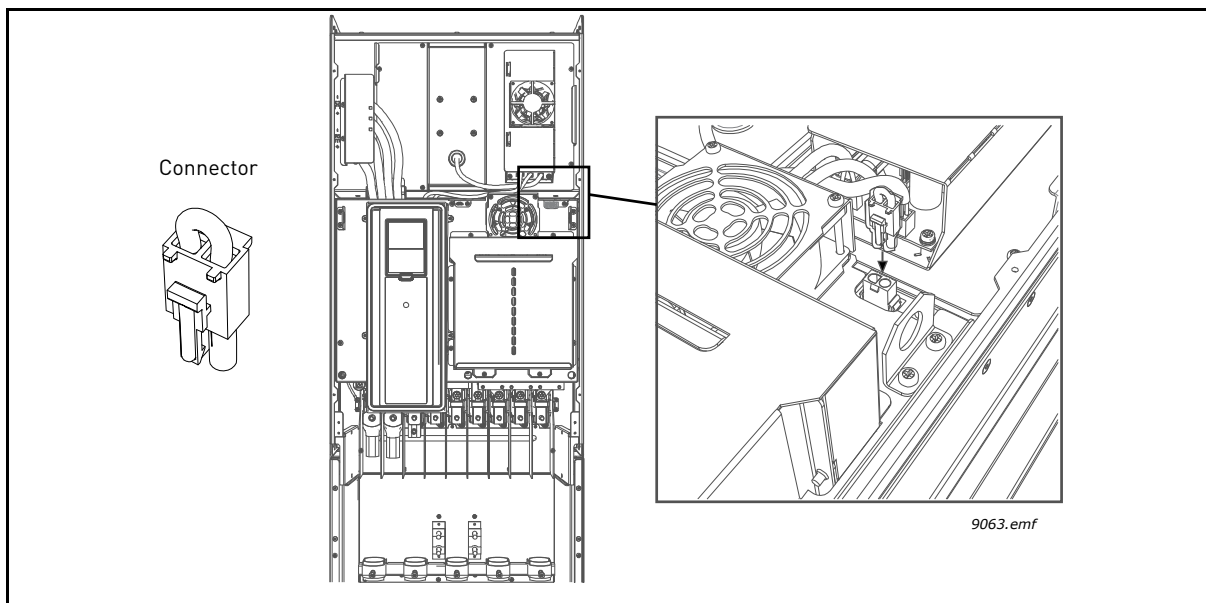

Figure 63.
**1** Find the Molex connector in the accessories bag. Remove the main cover of the AC drive and locate the place for the connector next to the fan. Push the Molex connector in its place. See Figure 63.